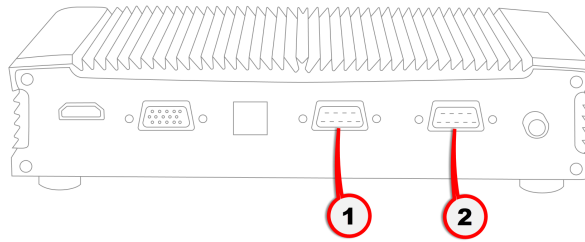

Figure 10. Cisco FM1000 Gateway (COM port)
1. Connect one end of an RS-232 serial cable to either of the **COM** ports on the rear side of the unit (1 or 2, Figure 10 \(page 30\)).